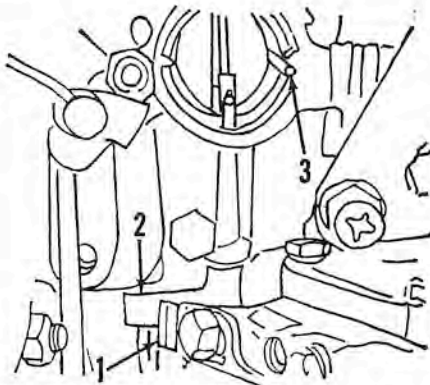

Fig. M87—Reverse throttle pickup adjustment used on Merc 800.
On Merc 800 direct reversing motors refer to Fig. M87. The reverse pickup lever (1) should be moved to the end of slot away from pickup finger (2) and the retaining screw tightened and safety wired. If correctly adjusted, this lever should not be moved. Move the speed control lever toward "Fast" (reverse) direction until distributor contacts the maximum (reverse) stop. Loosen the screw which clamps the reverse pickup lever to throttle shaft. Manually open the carburetor throttle until a No. 40 (0.098) drill bit can be inserted between throttle valve and port side of carburetor barrel as shown at (3). With drill bit holding throttle valve open, move the pickup finger (2) on throttle shaft until it contacts pickup stop (1) and tighten the clamping screw. Remove the drill.